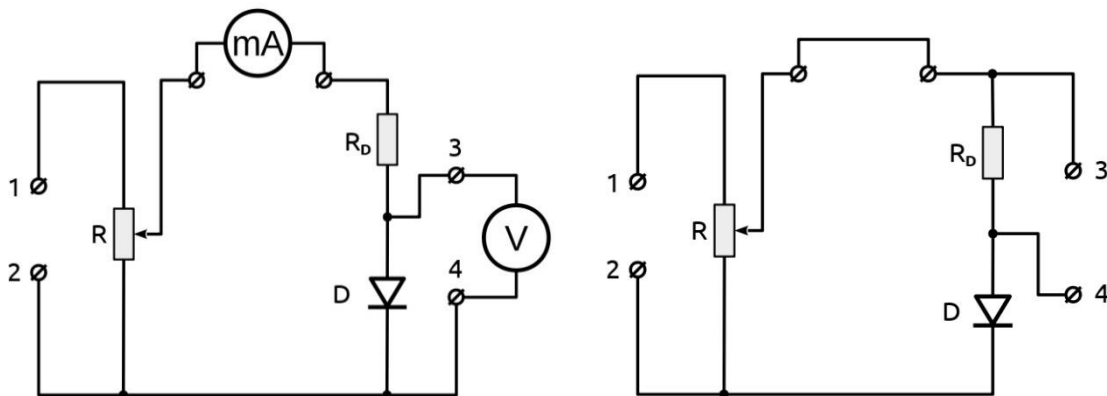

Figure 464.1. Circuits of the experimental setup
1. Assemble the circuit according to Fig. 464.1 (left), where D stands for one of the following diodes: D1 is a light-emitting diode (LED), D2 is a silicon diode, and D3 is a Schottky diode. Turn on the DC power supply. If the power supply is regulated, set the output voltage to 4...5 V.
1. Assemble the circuit according to Fig. 464.1 (right). Connect the harmonic oscillations source to pins **1**, **2**, and the oscilloscope to pins **3**, **4**.